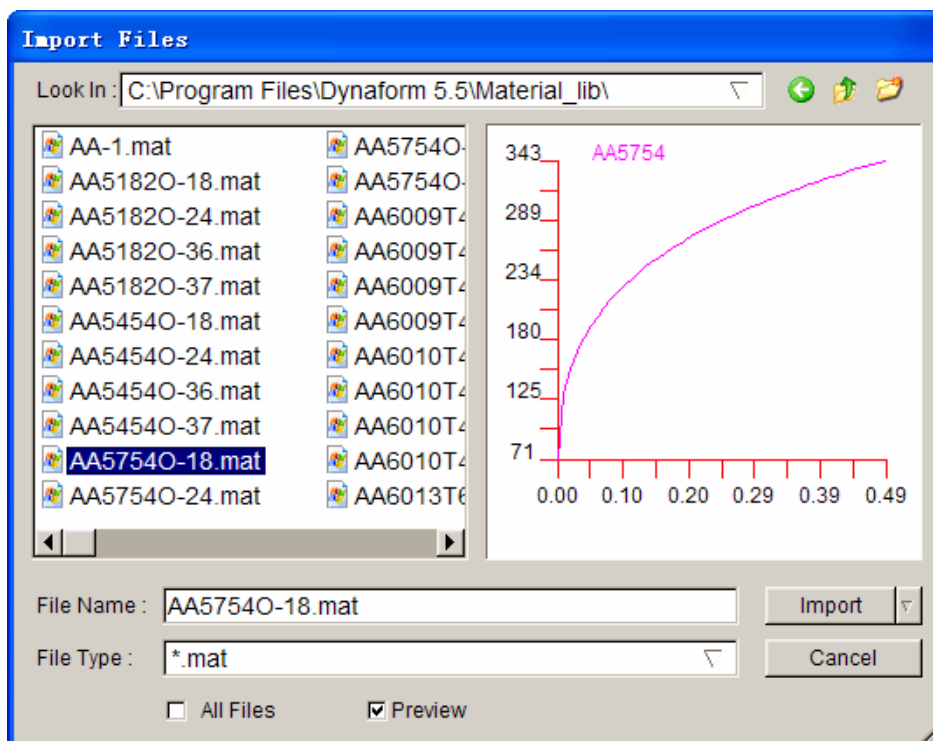

Figure 8.2.30 Material Stress-Strain Curve Preview
**PREVIEW:** The user may preview stress strain curve of selected material. See Figure 8.2.30.